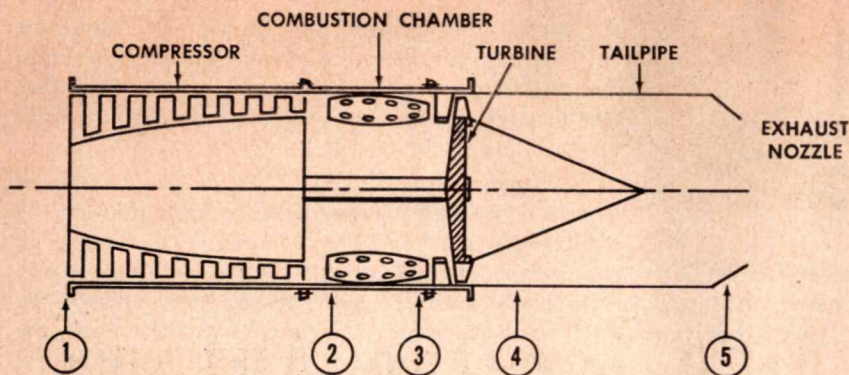

Figure 1—Longitudinal cross-section of a turbojet engine.
Figure 1 shows diagrammatically a longitudinal cross-section of a turbojet engine. Air is drawn into the axial-flow compressor at station (1), where the total (or stagnation) pressure of the air is P_1 and the total temperature T_1 . The air is discharged at station (2) at a higher pressure and temperature P_2 and T_2 . The airstream then enters the combustion chamber, where fuel is injected and burned, raising the temperature to T_3 . The hot gas is then expanded through the turbine down to the tailpipe pressure and temperature, P_4 and T_4 . During its passage through the turbine, work is extracted from the gas, and this work is used to drive the compressor. At the turbine exit, station (4), the pressure of the gas is still above that of the ambient atmosphere, and this pressure is used to force the exhaust gas through the nozzle at station (5) with high velocity.
Since the total gas pressure at station (3) in Figure 1 is substantially the same as at station (2), this equation may be written as